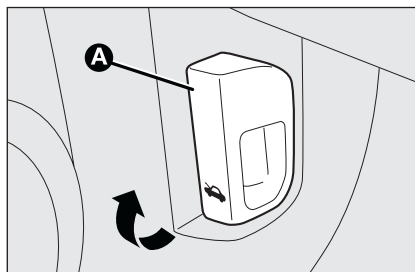

fig. 93
- ☐ pull lever **A**-fig. 93 in the direction indicated by the arrow;